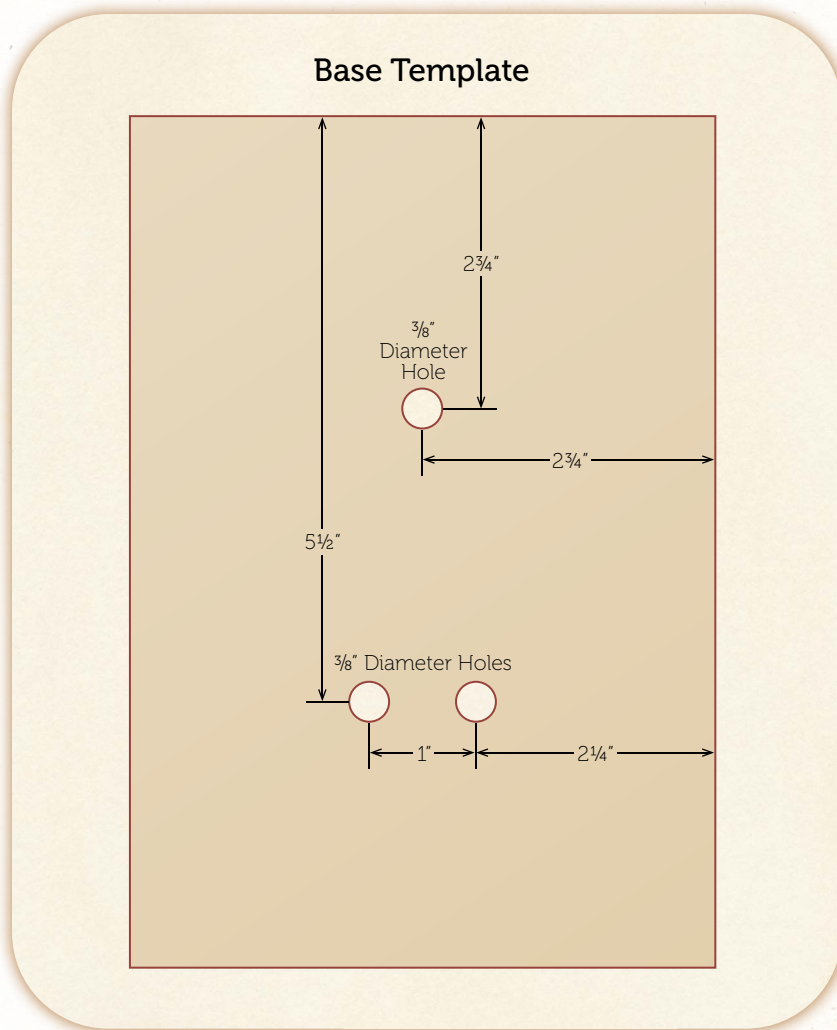

Figure 7.6: The base diagram
1. Drill three $\frac{3}{8}$ -inch-diameter holes for the axle hole and pin guide holes $\frac{3}{8}$ -inch deep in the base, as shown in Figure 7.6.